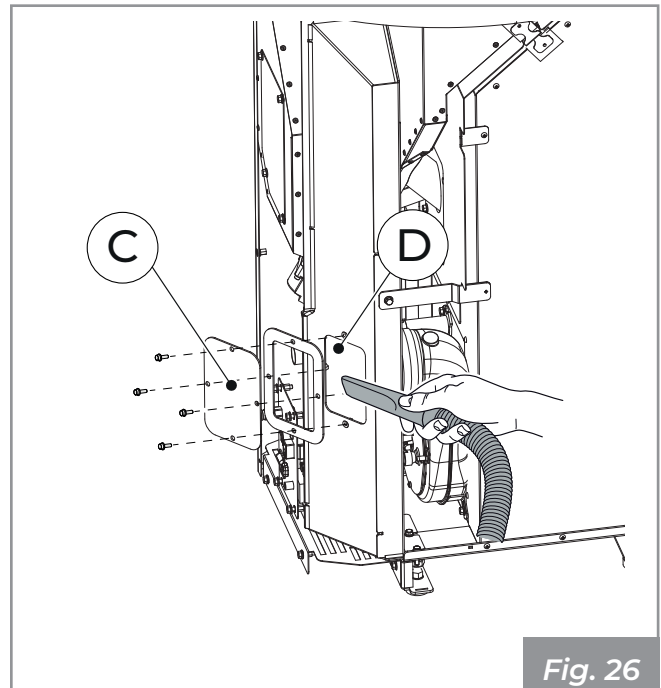

Fig. 26
- Remove the inspection cap (**C**) and relative seal to access the flue gas manifold (**Fig. 26 - D**).